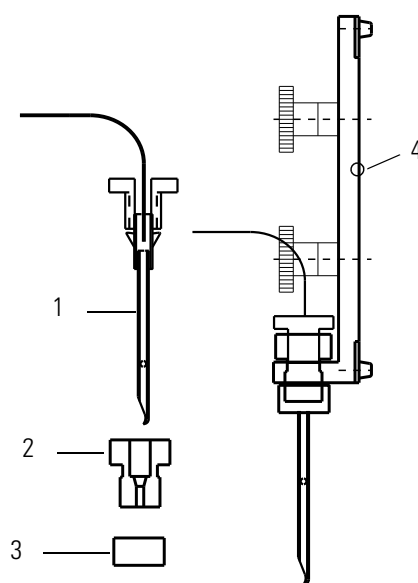

Figure 2-31. Mounting sampling or flush needles into needle holder
Note It is possible to connect two flush needles and operate them simultaneously by using our dual needle holder (P/N 1137120). See pos. 2 and pos. 4 in Figure 2-31. The dual needle holder is part of the Installation Kit (P/N 1121060). See Table 7-2. For dual needle flush an extra sample needle can be cut at the 0.32 ID deactivated fused silica capillary. This enables dual needle flush using two flush needles. ▲
Figure 2-31 outlines the mounting of needles into the needle holder of the autosampler. The related parts are summarized in Table 2-5. The part number of the complete sample needle assembly is
Table 2-5. Parts of Figure 2-31